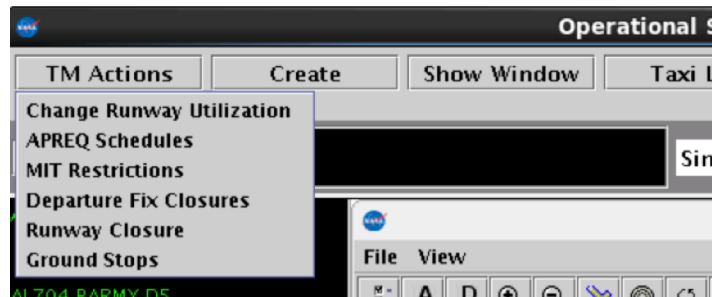

Figure 98. TM Actions drop-down menu.
**Step 1:** Click on the TM Actions menu and select “Change Runway Configuration” (Figure 98). This will open the TM Actions window with the “Runway Utilization” tab pre-selected.
**Step 1:** Click on the TM Actions menu and select “APREQ Schedules” (Figure 98). This will open the TM Actions window with the “APREQ Schedule” tab pre-selected (Figure 103).
**Step 1:** Click on the TM Actions menu and select “MIT Restrictions” (Figure 98). This will open the TM Actions window with the “MIT Restrictions” tab pre-selected (Figure 108).
**Step 1:** Click on the TM Actions menu and select “Departure Fix Closure” (Figure 98. TM Actions drop-down menu.). This will open the TM Actions window with the “Dep Fix Closures” tab pre-selected.